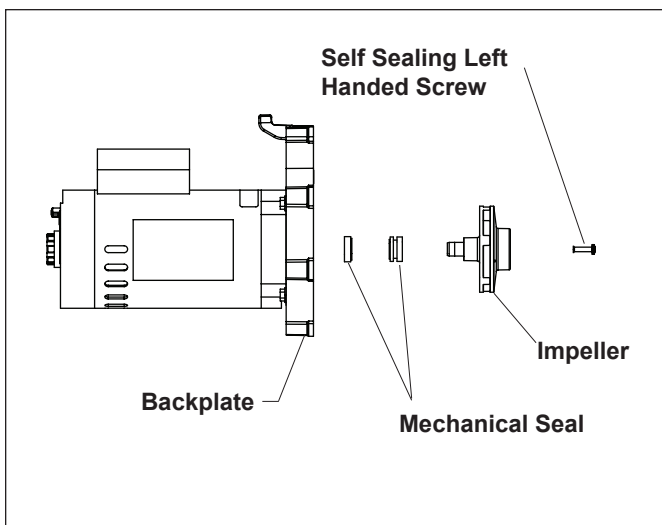

Figure 5. Remove the Impeller
7. Hold the exposed motor shaft with a ½" wrench while removing the impeller center screw using a #2 Phillips screwdriver (see Figure 5).